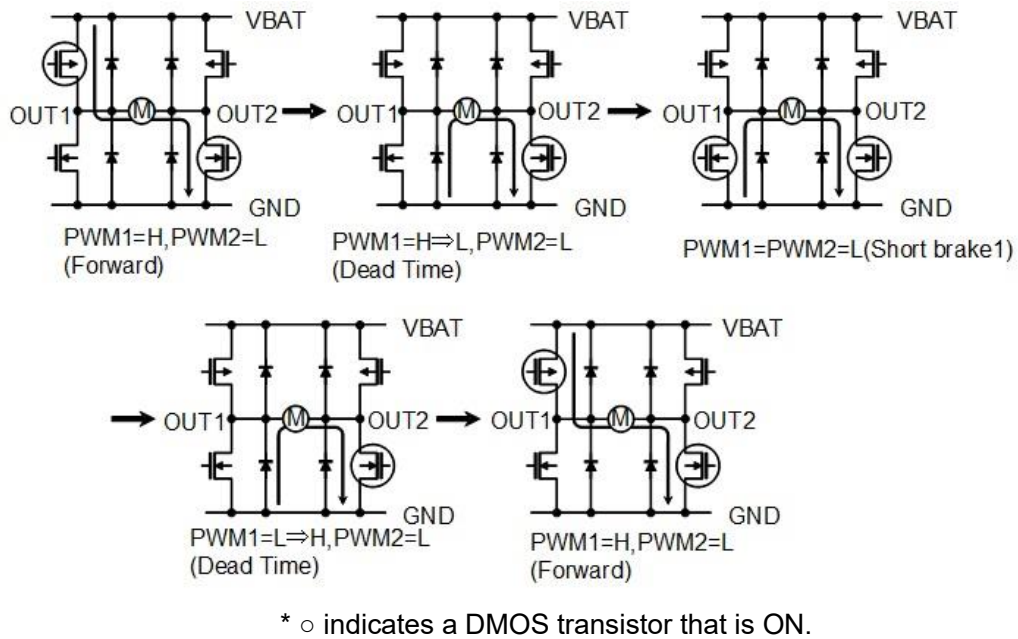
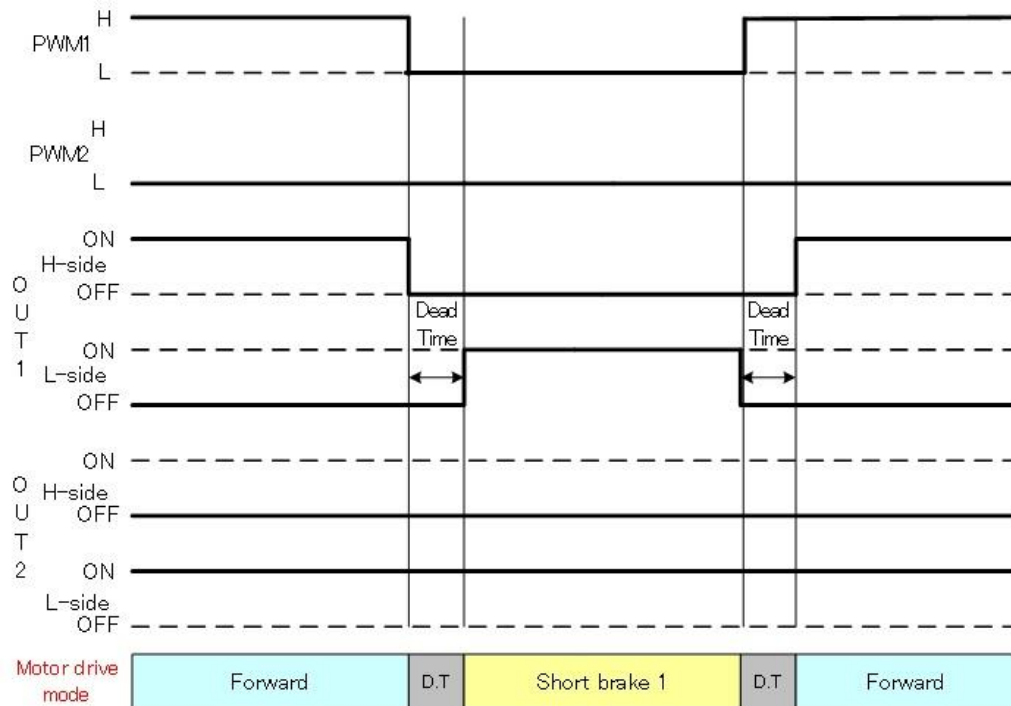

Figure 7.2. Current path for PWM function (forward rotation, low-side regeneration)
Figure 7.3. PWM function (forward rotation, low-side regeneration) timing chart
7.5. PWM function (forward rotation, low-side regeneration) (EN=H, ENB=L) (Figure 7.2 and Figure 7.3)